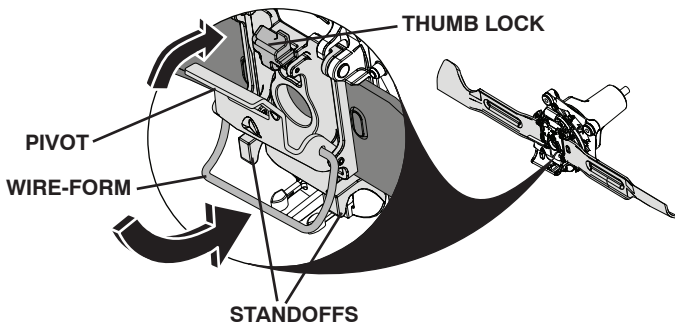

Fig. 39
- Push pivot closed until secured by the thumb lock. (See Fig. 39)